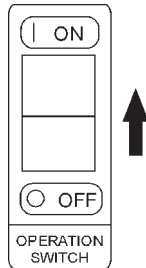

Figure 6. Generator On/Off Switch
- Place the generator **ON/OFF** switch (Figure 6) in the **ON** position.
- To shut down the engine, place the generator **ON/OFF** switch (Figure 6) in the **OFF** position.